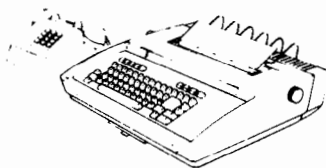

Fig. 1—43 KSR Station
1.01 This section provides disassembly and reassembly information for the 43 KSR Station (Fig. 1).